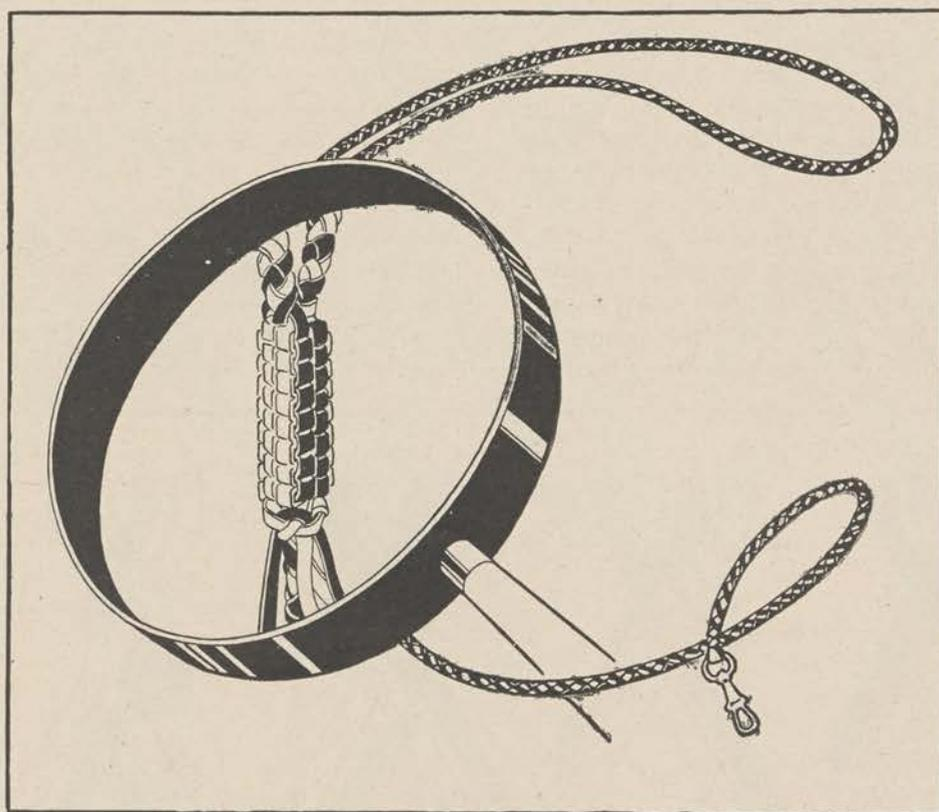

Figure 153.
*c.* Square braiding is frequently done on a solid core. In this way it can be used as a slip knot on a lanyard (fig. 153). The braid is formed loosely around the shank of the lanyard so that it will slide easily on the round braid.